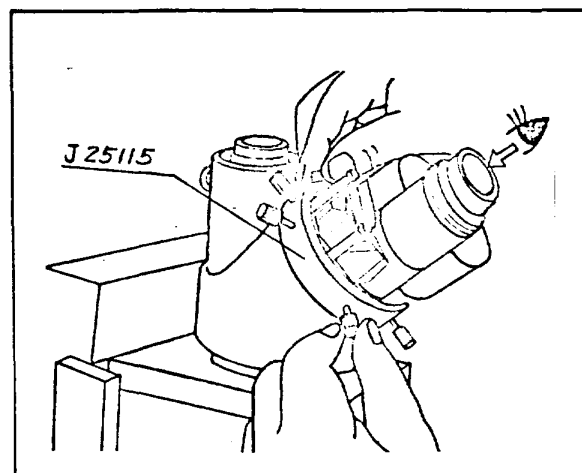

Fig. 22
Then adjust the prism seat (25) (right) and (26) (left) to bring the collimator reticle center at  $O_2$  up to the viewfield center  $O_0$ , by pushing the prism seat by the tool (J25115). (Fig. 22)